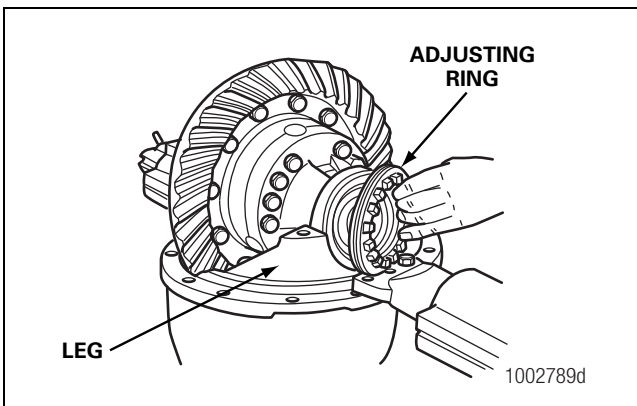

Figure 5.33
7. Install the bearing adjusting rings between the carrier legs. Hand-tighten the adjusting rings against the bearing cups. Figure 5.33.